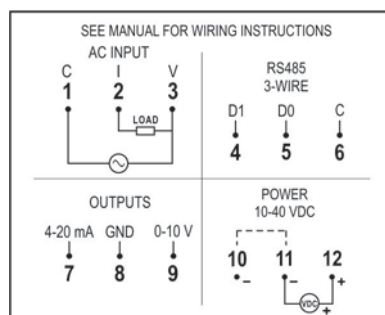

Fig. 03 – Electrical connections of the *DigiRail-VA*
**Fig. 03** illustrates the electrical connection terminals. Terminals 4, 5 and 6 connect to the RS485/Modbus interface. Terminals 7, 8 and 9 are intended for the analog outputs of the device (4-20 mA and 0-10 V – they share the same "negative" terminal). Terminals 10, 11 and 12 are used to power the *DigiRail-VA* (terminals 10 and 11 are interconnected internally).